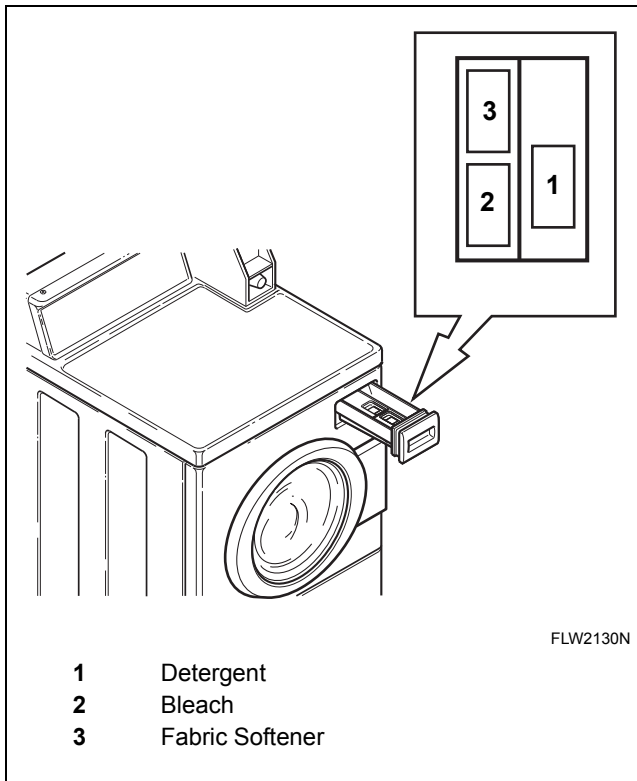

Figure 35
Open dispenser drawer. Measure and add low sudsing, high efficiency (HE) detergent (1), bleach (2) and fabric softener (3) to the dispenser drawer (refer to *Figure 35*). Close dispenser drawer.